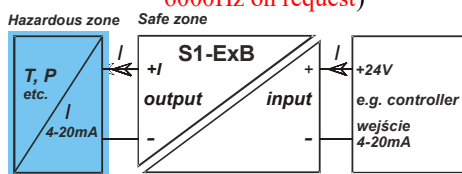

Fig. 1. S1-ExB3 or S1-ExB4 – supply and separation for two-wire transmitter  $4 \div 20mA$ .
A valuable application of the separators S1-ExB3, S1-ExB4, S1-ExB5 to cooperate with two-wire transmitter shows fig. 1.
**Voltage drop on the input for application from fig. 1 and fig. 4 when two-wire 4-20mA transmitter is connected to intrinsically safe output of separator S1-ExB (version with 20Hz frequency band):**
Class for application from fig. 1 and fig. 4